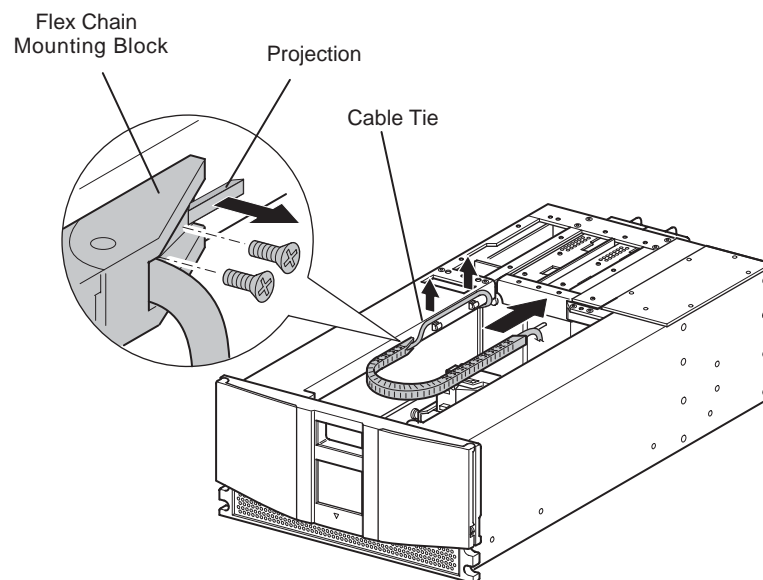

Figure 2-38: Removing the flex cable
9. Cut the cable tie at the flex chain mounting block and move the cables to reveal two flat-head mounting screws (see Figure 2-38).
17. Install a cable tie around the cables and the projection on the mounting block (see Figure 2-38.)